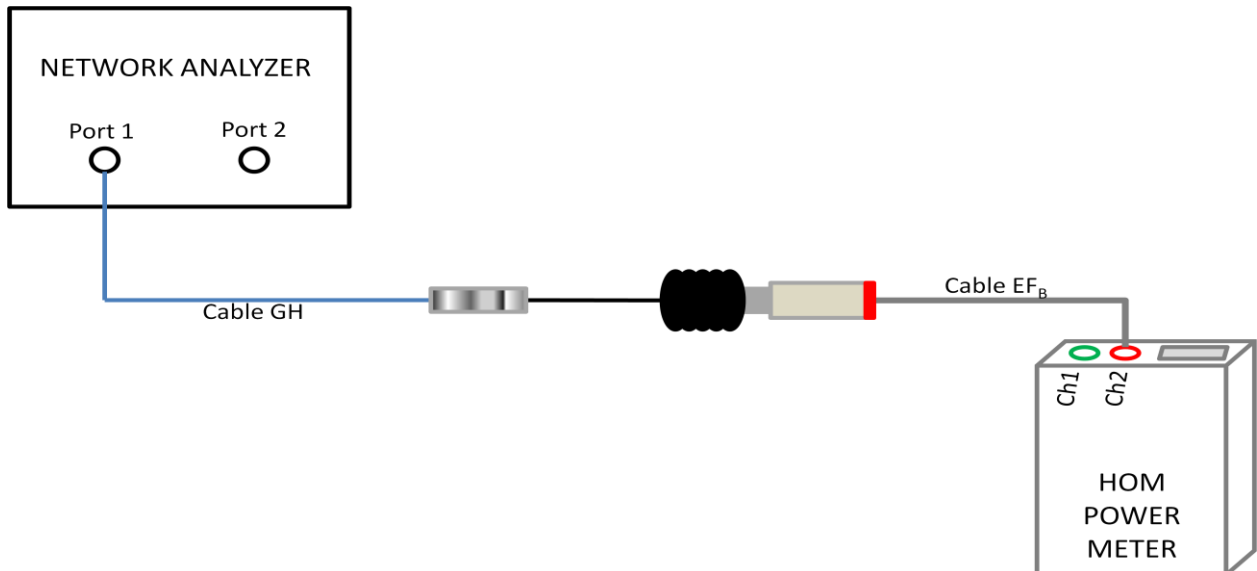

Figure 5. Network Analyzer connection to PM_{HOMB}
- At Dewar, connect cable GH from network analyzer to cable EF_B (PM_{HOMB}) as shown in Figure 5.